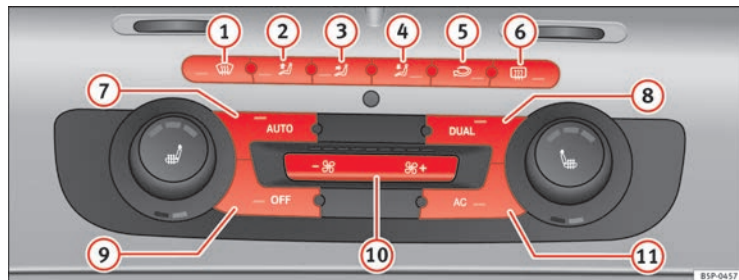

Fig. 132 On the dash panel: 2C Climatronic controls.
- To enter manual mode, press one of the buttons \Rightarrow fig. 132 1 to 5 or press the air flow control 10. The selected function is shown on the radio or navigator display.
- Press the button  ⇒ page 168, fig. 132  to switch air recirculation mode on or off. It is switched on if the following symbol appears in the display .